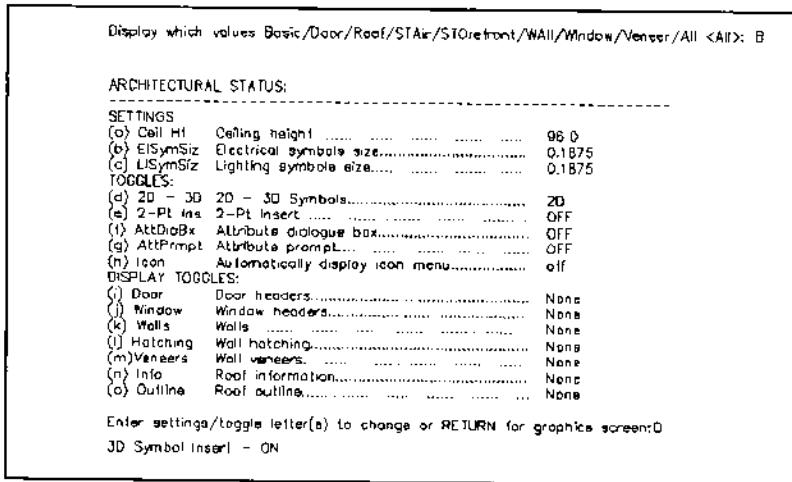

Figure 4.
4. Enter letter D from the Basic Status screen toggles 2D - 3DSymbols ON as shown in Figure 4.
3. Door settings and toggles are located in both the Basic and Door Status display screens as previously shown in Figures 4 and 6.